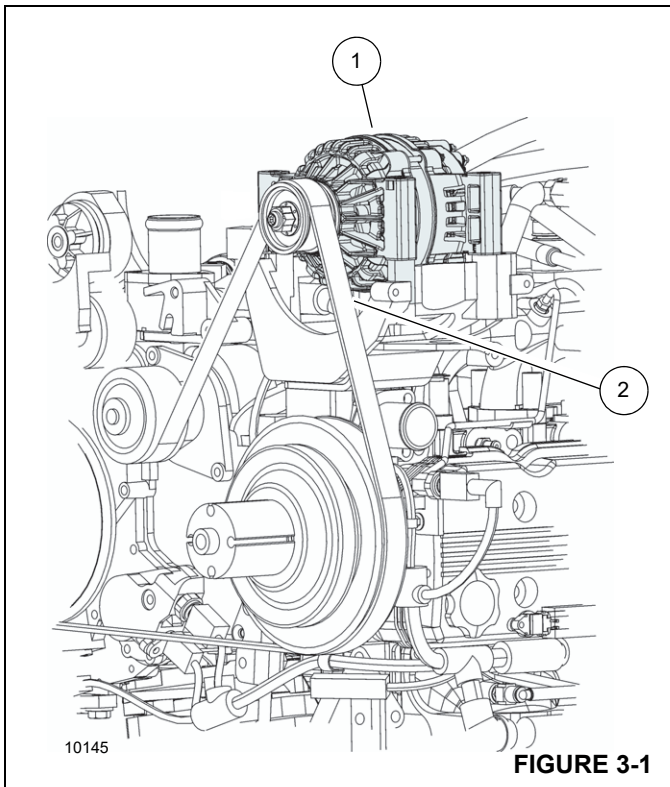

FIGURE 3-1
A belt-driven (2, Figure 3-1) 24 volt, 110 ampere alternator with an integral transformer - rectifier unit (1) is mounted on the engine. It provides power to the crane electrical circuits and voltage to recharge batteries and maintain them at a full state of charge.